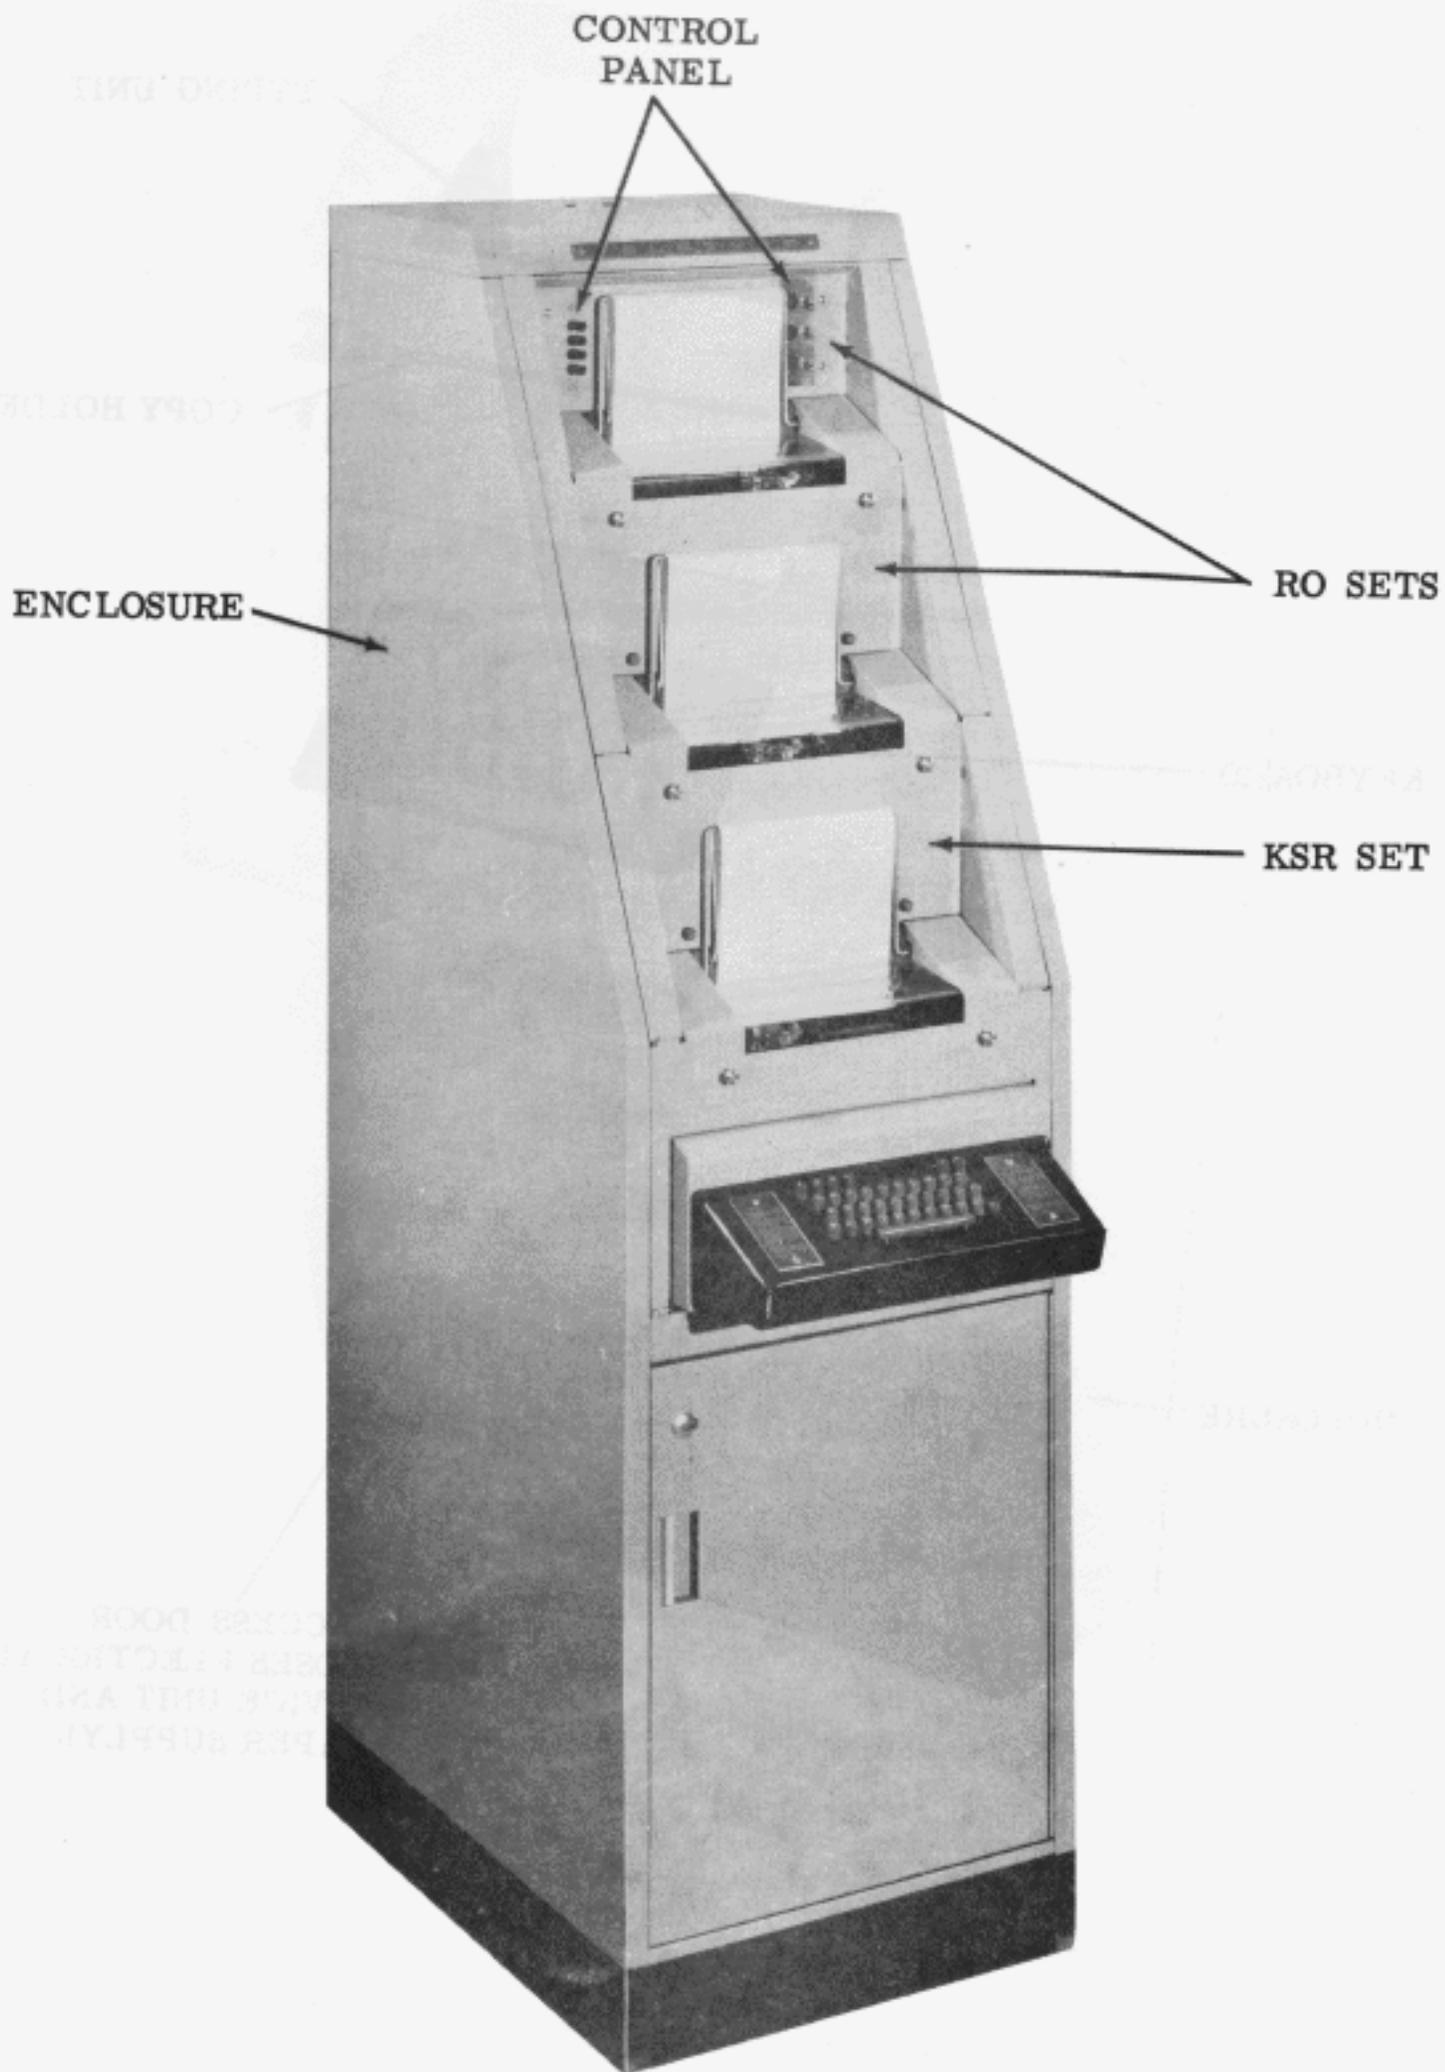

Figure 5 - Typical Multiple KSR and RO Set
- (e) Multiple KSR and RO Set - Provides two RO and one KSR, or three RO sets in a single enclosure (Fig. 5).